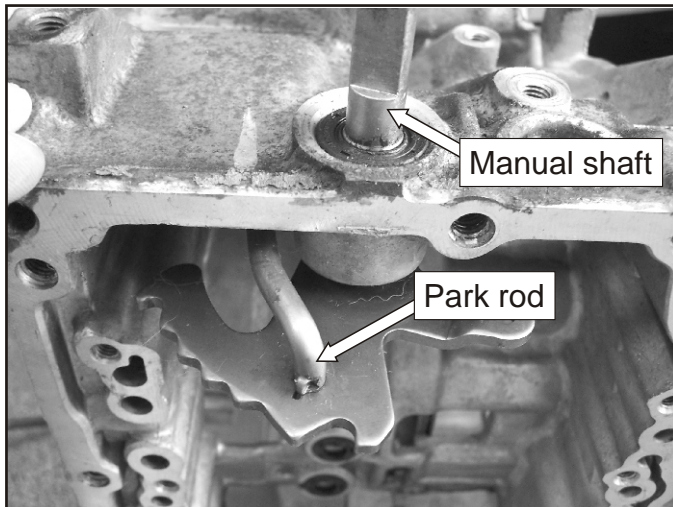

Figure 263
- 190. Slide the parking rod into the case and rotate the manual shaft until the slot lines up with the park rod. See Figure 263.